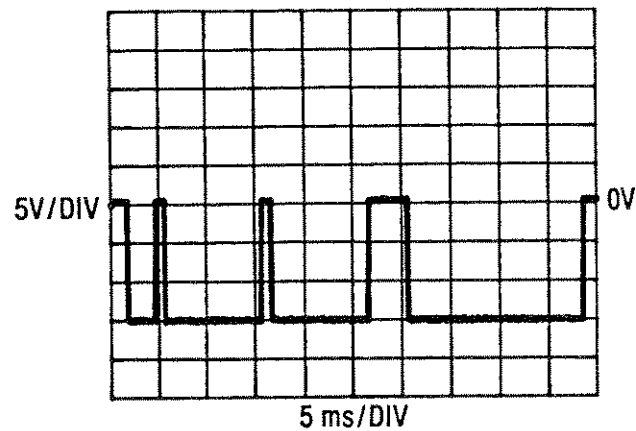

Figure 8-45. Ramp Start Gate Waveform
5. Compare the waveform at A5U8 pin 7 with Figure 8-45.